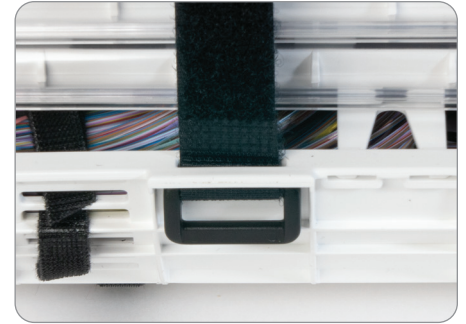

Figure 47
5. Pull the two Velcro straps through the horizontal and vertical strap slots soft side up. (Figure 47)